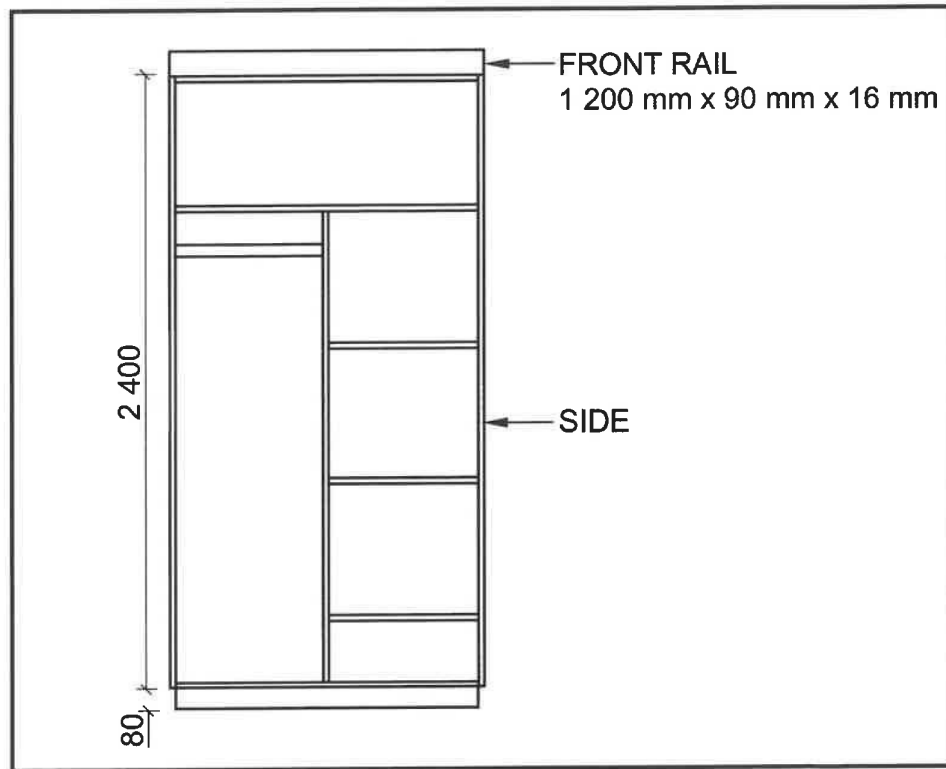

FIGURE 3.3
- 3.3 FIGURE 3.3 below shows the front view of a free-standing cupboard without doors.